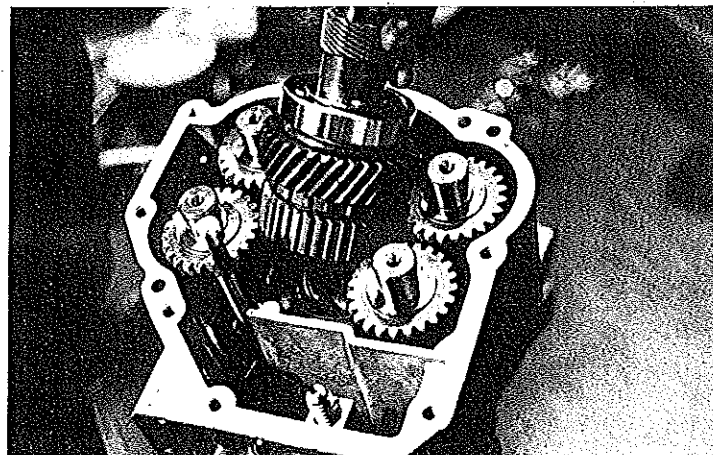

FIGURE 13
The output shaft assembly is now positioned in mesh with the planet gear teeth. If the output shaft had been disassembled make sure the output gear is positioned on the shaft with the clutch teeth adjacent to the (36) teeth gear on the shaft. (Figure 13).